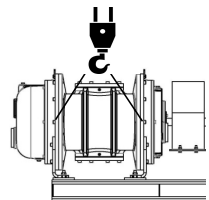

Fig. 3: The right way of lifting the MVB.
- a. MVB should be lifted and moved as shown in figure 3. Use two lifting hooks that are provided on MVB.